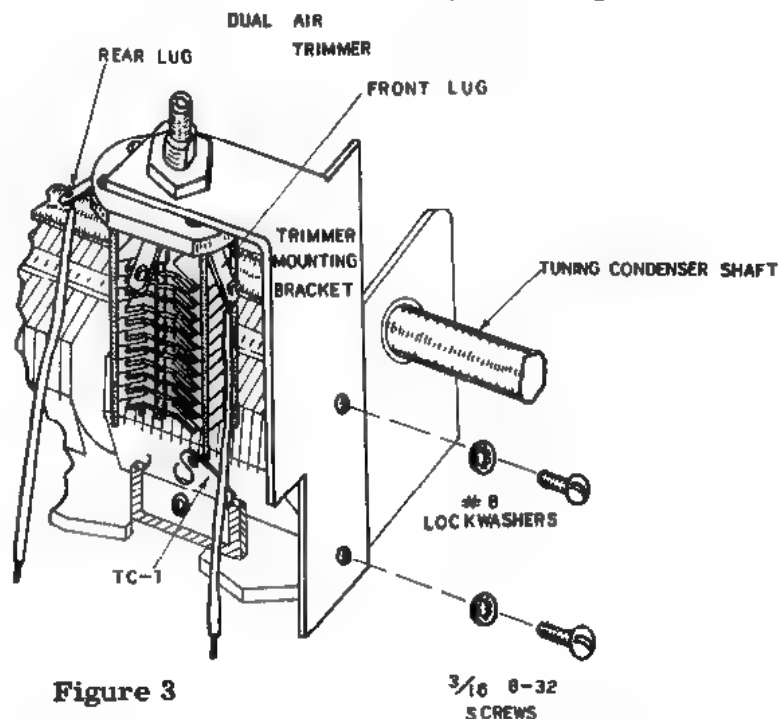

Figure 3
- ( ) With the tuning capacitor shaft facing toward you, using the two  $3/16"$  8-32 screws and #8 lockwashers, mount the trimmer mounting bracket at the left front side near TC-1. See Figure 3 and Figure 4.
- ( ) Strip both ends of a 3" length of hookup wire. Connect one end to TC-1 (NS). See Figures 3 and 4.
- ( ) Slip a  $1\ 3/4"$  length of insulated sleeving over one lead of a  $.1\ \mu\text{f}$  200 V. capacitor and connect this lead to TC-1 (NS).
- ( ) Connect a  $1\ 3/4"$  length of hookup wire to each of the two terminals on opposite ends of the dual air trimmer capacitor. Solder both connections. See Figure 3.